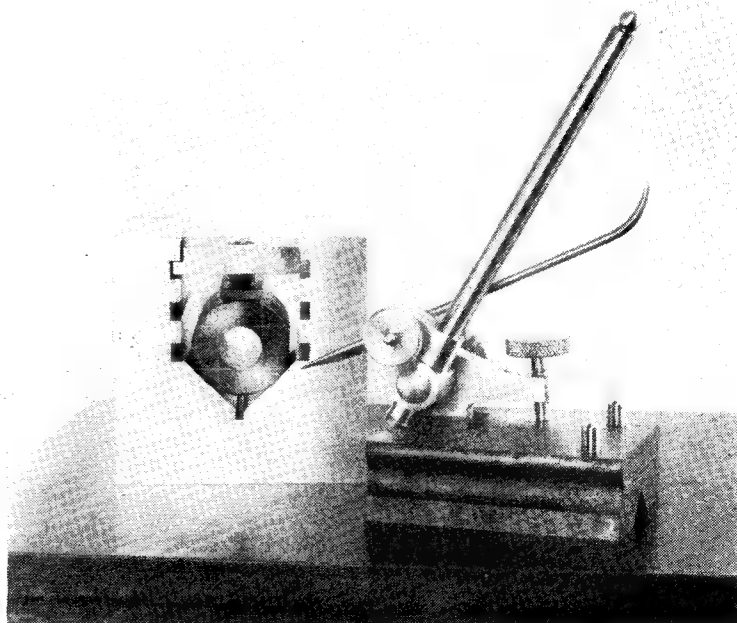

Fig. 5. Marking-out the square on the surface-plate
distance across the flats of the square, is then drilled axially right through the part, as shown in Fig. 4 (A). The bore is now opened out at the top end with a boring tool, to fit on to the end of the spanner shank. The next operation, illustrated in Fig. 5, is to mark-out the square accurately on both ends of the work; for this purpose, an Offen V-block was found most convenient, as the sunk clamping plate allows the block to rest on all four sides on the surface plate. The scribe of the surface gauge is set to the periphery of the drilled bore, and in this way, the four sides of the square are marked-out.